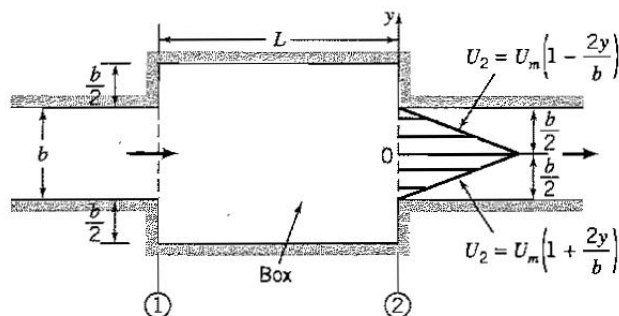

Figure P3.31
3.31 A fluid flows through a two-dimensional duct of width W , as shown in Figure P3.31. At the entrance to the box (face 1), the flow is one-dimensional and the fluid has density ρ_1 and velocity U_1 . At the exit (face 2), the fluid has a uniform density ρ_2 but the velocity varies across the duct as shown. Find the rate at which the average density inside the box is changing with time.